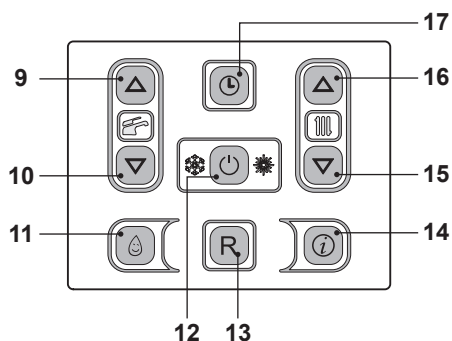
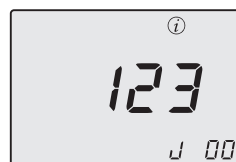

Fig. 3.5
Fig. 3.6
In order to access the INFO mode, press key 14 (Fig. 3.5) the index **J00** and the value of the parameter appear on the display (Fig. 3.6).
16 (increase) keys. In order to exit the INFO mode, hold keys 12 and 16 (Fig. 3.5) pressed at the same time.
To reset normal boiler functioning, just press the 13 (Fig. 3.5) key.